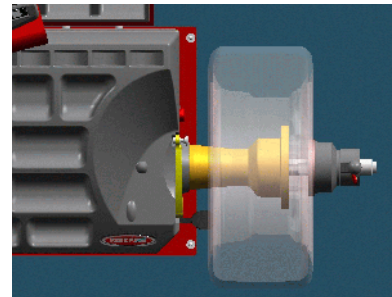

Fig. 30: second spin, complete wheel
5.1.3 Mount the tyre on the rim and put the wheel on the shaft (fig.30).